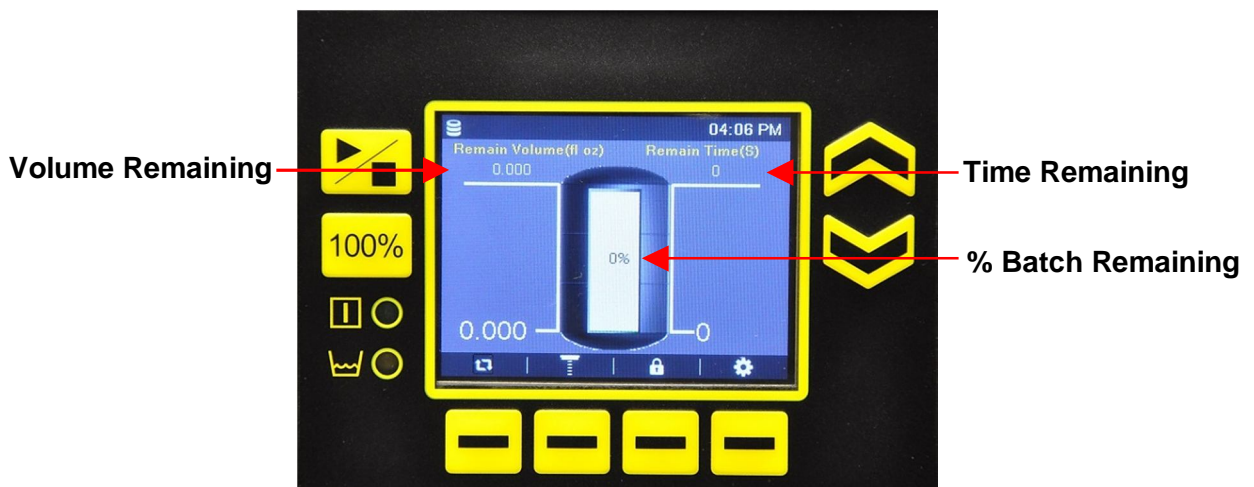
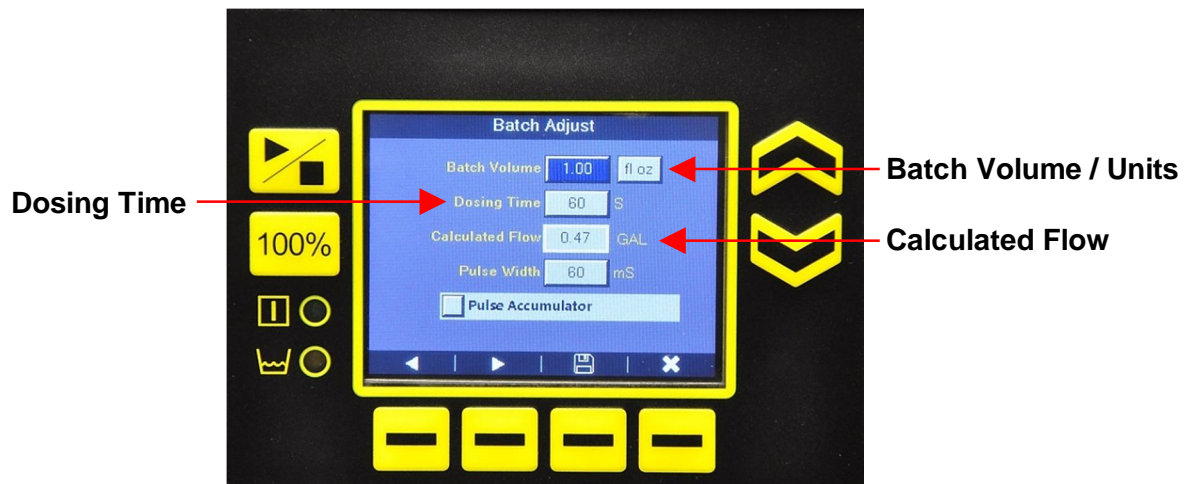

Figure 5: Batch Mode Home Screen
Figure 6: Batch Adjust
1. From the Batch Mode home screen (Figure 5) press the **Up** or **Down** buttons to go to the Batch Adjust screen (Figure 6).
2. Enter the values for the quantity and units of the volume of fluid to be dosed (Figure 6).